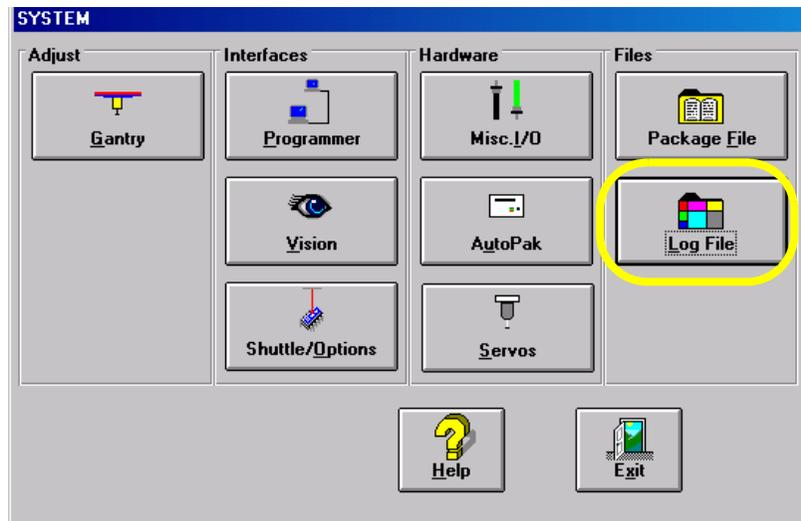

Figure 3-91—Select **LogFile**
- 1b) From the System window, select **LogFile**. See *Figure 3-91*.